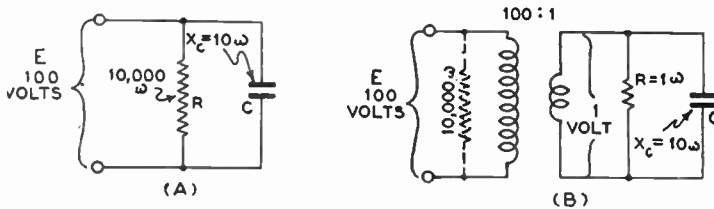

FIG. 7
Consider the circuit shown at (A) of Fig. 7. A high-frequency voltage, E , of 100 volts is impressed across a resistance, R of 10,000 ohms and a capacity, C , whose reactance at the impressed frequency is 10 ohms. The current through R is simply $100/10,000 = 0.01$ ampere, and that through the condenser is $100/10$ equals 10 amperes. It is clear, then, that under these conditions the impedance of the condenser is so *low* compared to that of the resistance (this could also be an inductance) it is connected across, that it takes nearly all of the current that flows from the source of voltage.
Now suppose that the source voltage be stepped *down* by a transformer so that the voltage applied to the circuit is now only 1 volt (as shown at (B) of Fig. 7); the transformer ratio required to reduce this voltage is 100-to-1 (step down). But the impedance is